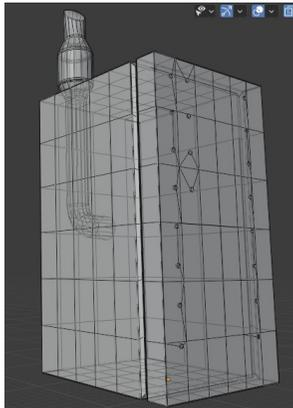

Figure 4-4 The prototype refrigerator
Figure 4-4 shows how I arranged the indents and studs but obviously you can use your artistic sensibilities to create whatever pattern you like the look of: lines of rivets round all the panels or, if you had reduced the number of vertices in the cylinder to 6 instead of 12, you could have made an even more steam-punk refrigerator with lines of bolts.
10. To make the groove running round the object to represent the door seam use the Loop Cut tool in Edit mode. The way this tool works is that it forms a highlighted edge loop at right angles to whichever edge is nearest to the cursor. When you hold down LMB you can slide the position of the edge loop until you release LMB which fixes it. Position the new edge loop a small distance from the first loop in from the front face as shown in Figure 4-4.